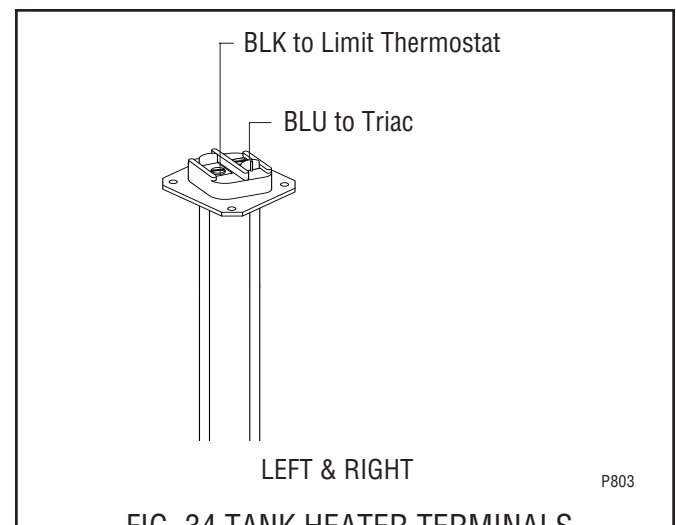

FIG. 34 TANK HEATER TERMINALS
5. Refer to Fig. 34 when reconnecting the wires.